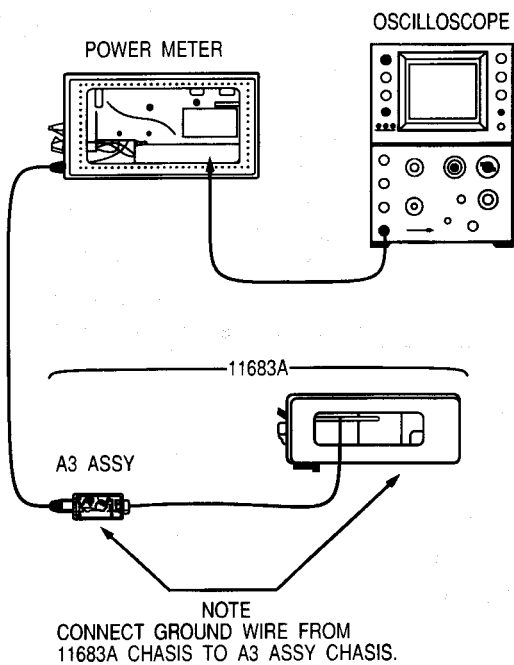

Figure 5-1 FET balance adjustment setup
- 2 Connect the equipment as shown in Figure 5-1. (The oscilloscope probe will be coupled to TP4 if the 435A Power Meter is being used.)